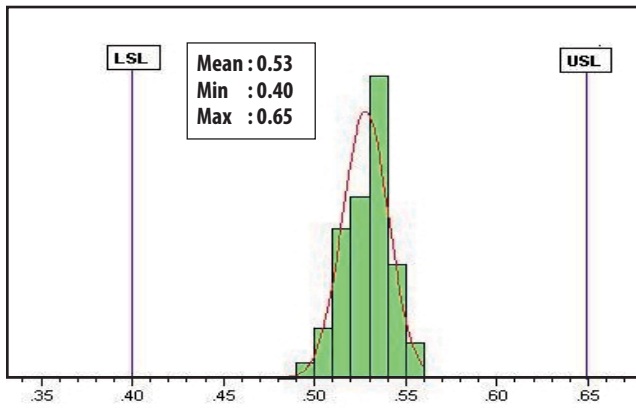

Figure 1. V_{gg} @ 1.95GHz, 5V, 50mA
7. Measurements at 1.85 GHz obtained using demo board described in Figure 1.